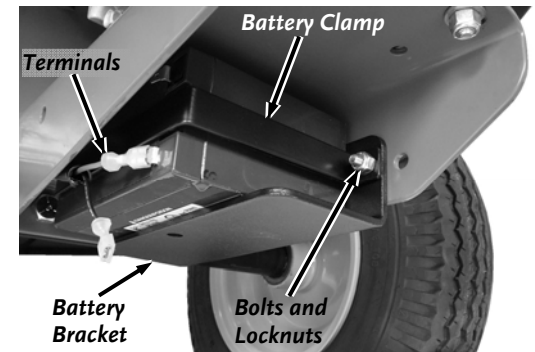

Figure 2
5. Electric Start Only: Disconnect the Terminals from the Battery (**Figure 2**). Remove the Battery Clamp hardware with two 7/16" Wrenches and remove the Battery Clamp, Battery and Battery Bracket.